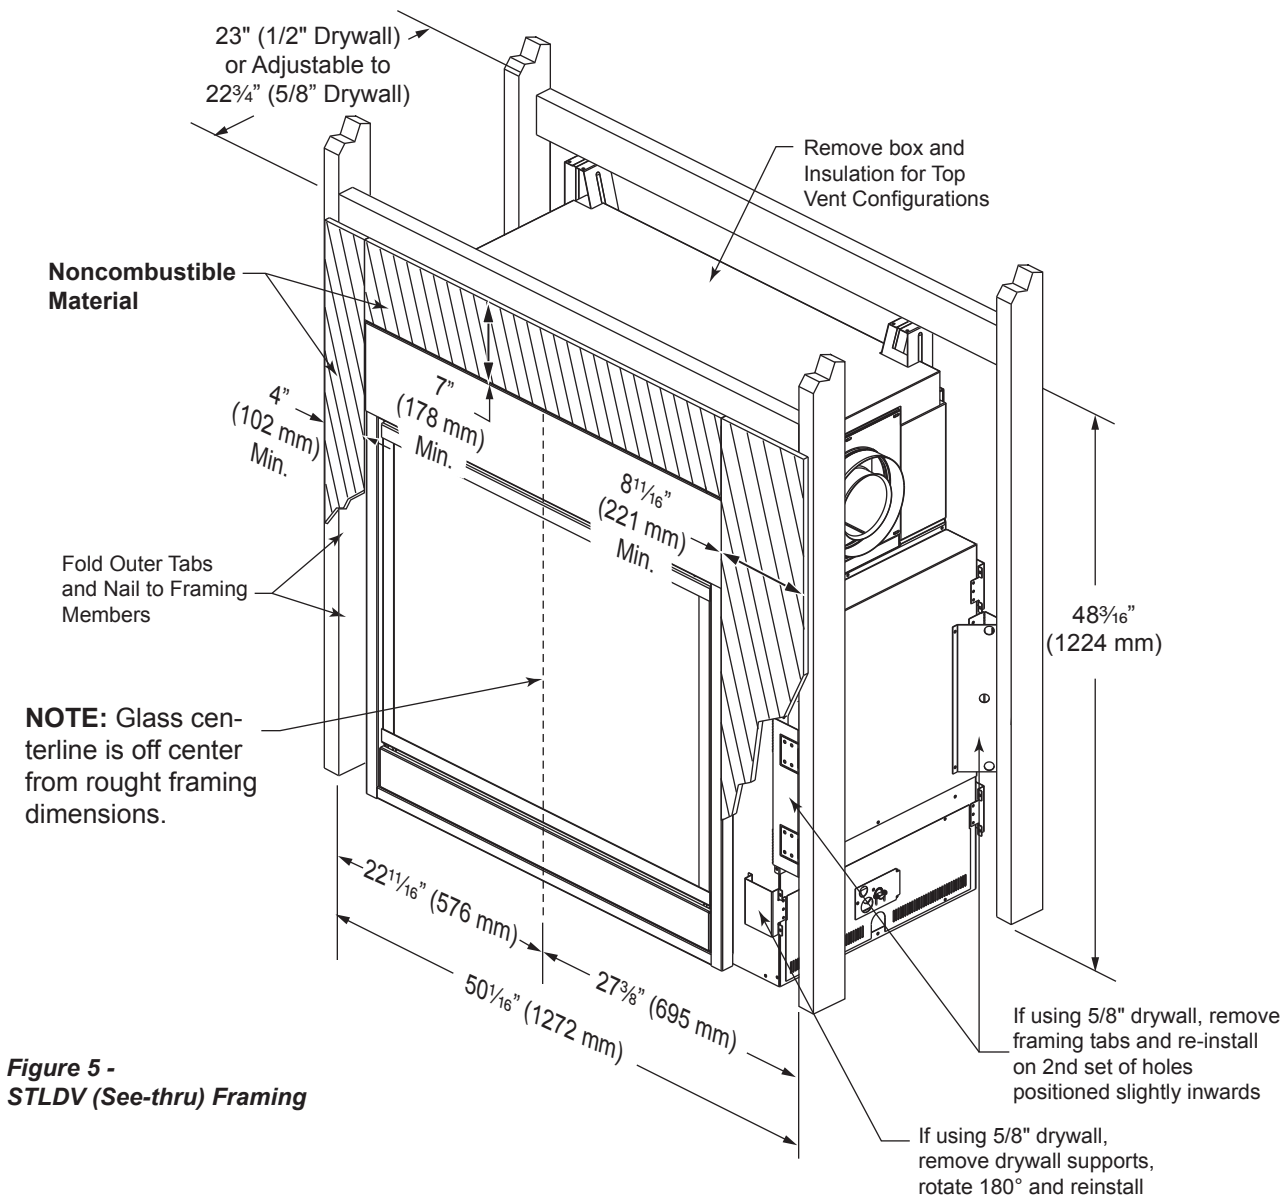

Figure 5 -
The fireplace must be secured to the floor and/or to framing studs as shown in *Figure 5*. Use four (4) wood screws or masonry/ concrete screws to secure fireplace to the floor. Use four (4) screws to attach fireplace to framing. The side brackets or nailing flanges are designed to accommodate two wall boards thicknesses, 1/2" or 5/8".